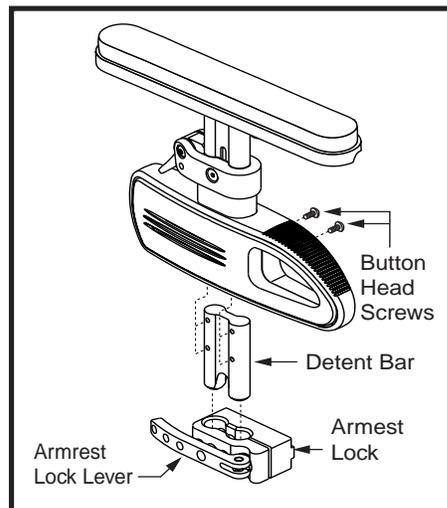

Figure 16. Pediatric Single Post Quick Height Adjustable Armrest Bottom Height Adjustment
1. Remove the two button head screws from the detent bar. See figure 16.